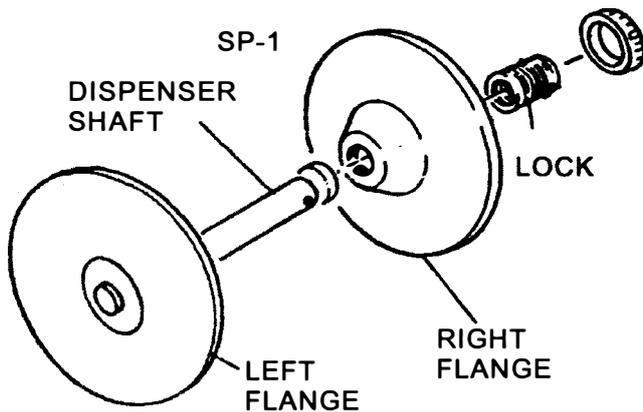

FIGURE 10. DISPENSER ASSEMBLY
Refer to Figure 10 and proceed as follows:
1. **Withdraw** the dispenser assembly. Place the assembly as shown. (FIG. 10, P. 8)